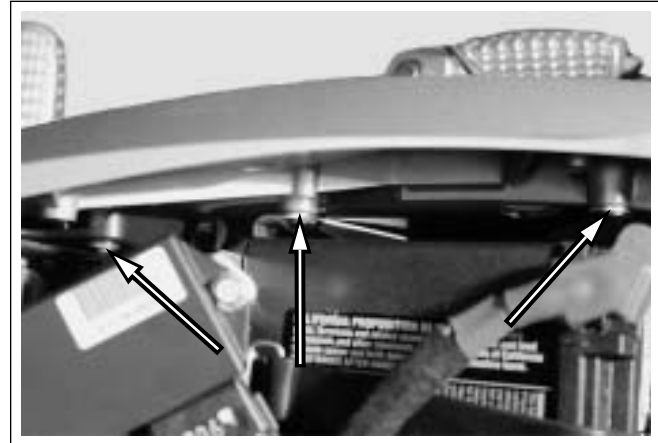

Figure 2-132. Internal Fasteners/Right Side Tail Section
11. See Figure 2-132. Remove the three fasteners on the inside of the right tail section.